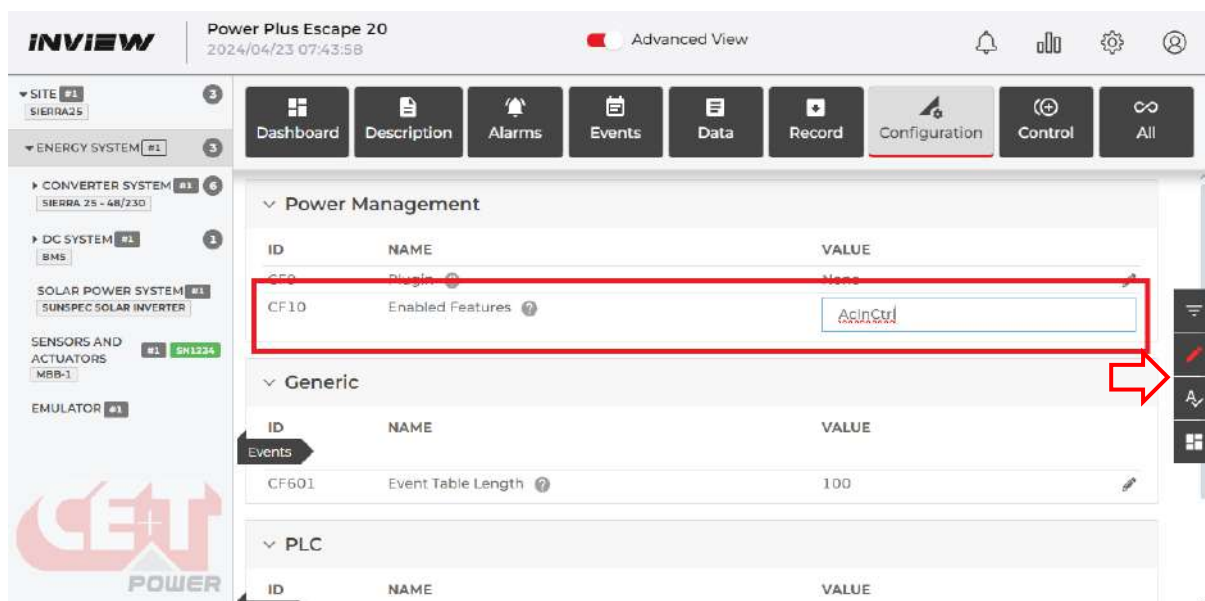

Figure 29- Editing AC In Control
- 2- Hover over the pencil on the right-hand side this should allow you to click on Edit as seen in Figure 29- Editing AC In Control.